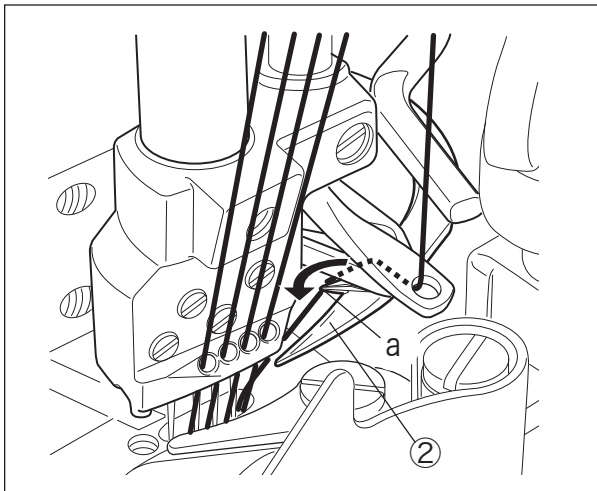

Fig. 6-36
Check that the spreader ② moves from left to right, and that the top cover thread get over the hook “a” of the spreader from right to left at a position 0.5 mm before the extreme right. (Refer to Fig. 6-36.)